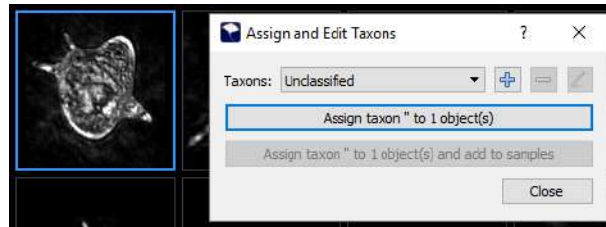

Figure 14: Creating and assigning Taxon to objects in the database
4. There are 2 options to assign the Taxon. The **Assign taxon '[taxa]'** to [#] object(s) button will simply assign a taxon to the object. The **Assign taxon '[taxon name]'** to [#] object(s) and add to samples button will classify the object and save the object as a sample (Figure 14). Samples will be used later to train the classifier.